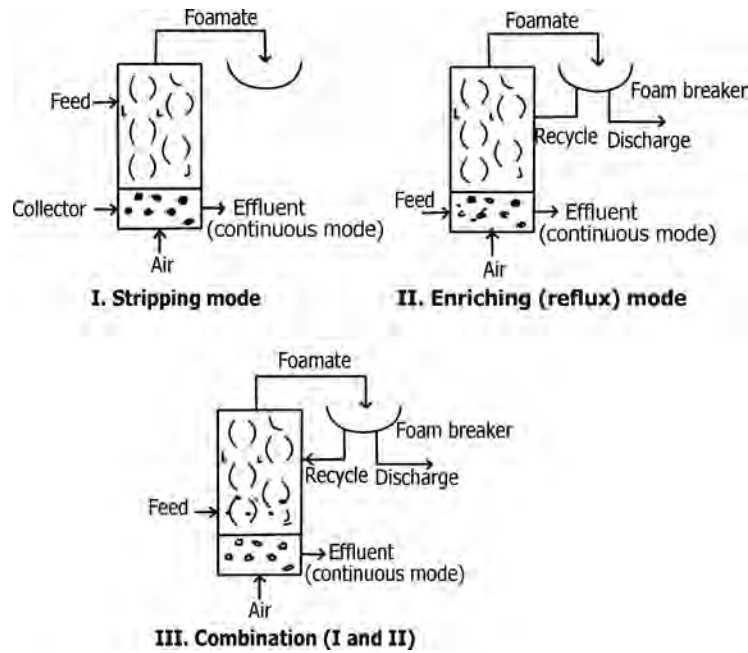

FIGURE 18.64 Illustration of the three operating modes for foam separating columns.
- Figure 18.64 illustrates the modes of operation.